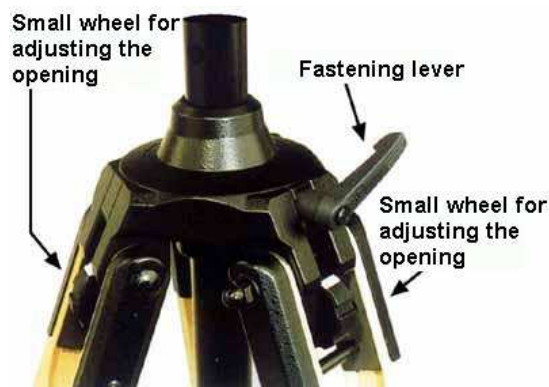

Fig. 8-6 TR-02A Tripod
- fixed opening of 20°: White adjustment indicator is visible (as in the Fig. 8-6);